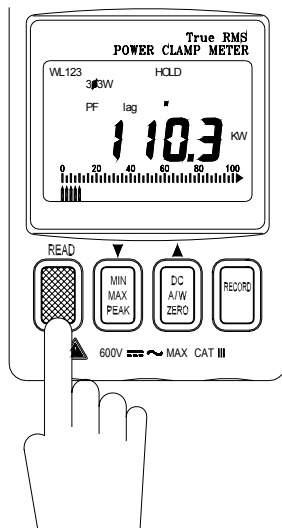

Figure 6
**A. Measure  $W_{R(L1)} / P_{FR(L1)}$  (refer to figure 6).**